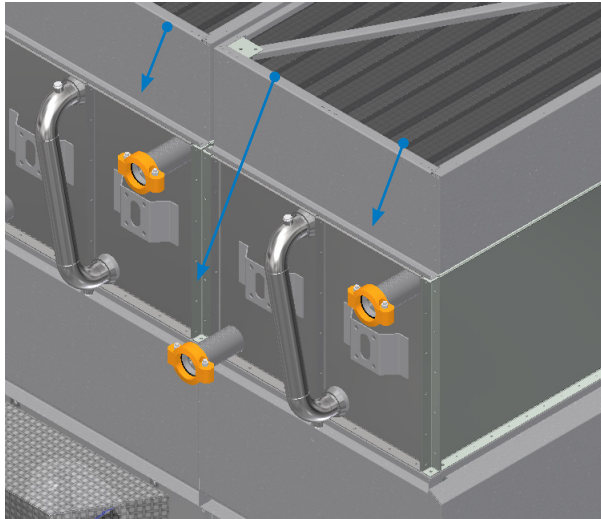

Figure 20. Place Flexible Coupling (Series Flow Shown)
2. Place the 3" flexible coupling (Victaulic, BAC #202174M6) onto the hCore™ Heat Transfer System. See **Figure 20**.